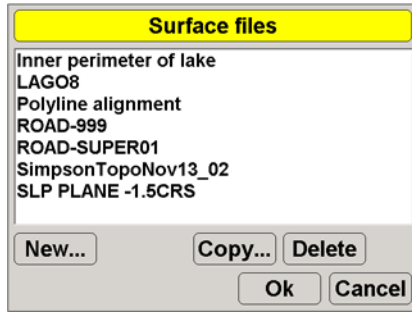

Figure 3-6. Design Surface Files
2. Press **Topcon Logo ▶ File ▶ Surfaces** and press **New** (Figure 3-6).